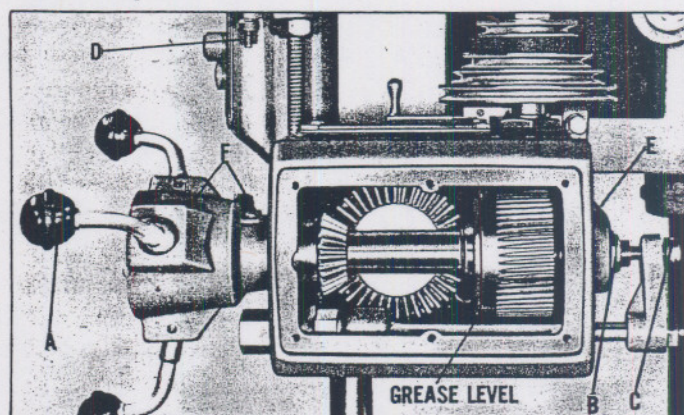
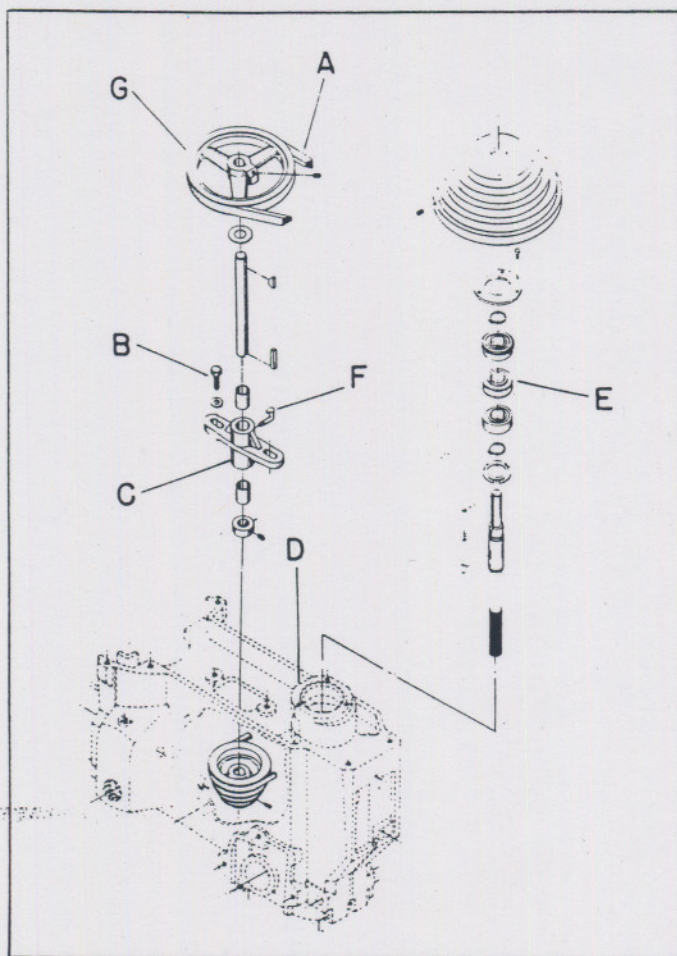

Fig. 13.
Fig. 15.
The plunger (C) Fig. 13, is an external extension of the clutch shaft, and is provided in order that automation devices can be interlocked with the power feed. It also provides a means for remote control.
When this plunger is pushed in the power feed cycle is started, the same as it is when any one of the three handles is pushed in. The feed then continues until this plunger is pulled out, or one of the three handles is pulled out, or until the screw (D) Fig. 13, actuates the trigger of the power feed. At this time the feed stops, and the quill automatically returns to the "up" or starting position.
Adjustment for torque is made by first engaging the clutch by pushing in the power feed pilot wheel (A) Fig. 13. The torque adjustment nut (B) is a self-locking nut. As viewed from the rear, turning the adjustment nut (B) in, or clockwise, will increase the holding pressure or torque, while turning the nut (B) counter-clockwise will decrease it. This adjustment is extremely sensitive — — — do not turn the adjusting nut more than 1/16 of a turn at a time without checking the torque; the amount of torque can be checked by forcing the handwheel to move while the clutch is engaged. The force required to make the clutch slip is approximately equal to 1/12 of the pressure delivered at drill point. If the adjustment nut is drawn up too tight, it will not be possible to operate the clutch.
To replace the power feed drill press belt (A) Fig. 15, proceed as follows:
2. Loosen two cap screws (B) Fig. 15, that holds countershaft assembly bracket (C), and move bracket (C) toward front of head to release tension on belt (A) Fig. 15.
5. Insert new belt through opening in rear of upper spindle boss (D) Fig. 15, of head casting.
6. Replace spindle pulley assembly into the head casting. Make sure the power feed V-Belt (A) Fig. 15, is seated in groove of pulley (E) Fig. 15. The other loop of power feed V-Belt (A) is seated in the groove of pulley (G) Fig. 15.
7. Adjust belt tension by moving countershaft bracket (C) Fig. 15, toward motor. When correct tension is obtained, tighten the two screws (B) Fig. 15.
Oil countershaft bearing by filling oil cup (F) Fig. 15, once a week with medium machine oil. Oil rear clutch housing ball oiler (E) Fig. 13, and two clutch handle housing ball oilers (F) Fig. 13, daily with medium machine oil.
Power Feed Gears – Remove side housing cover, repack to grease level, see Fig. 13, using a tacky grease such as Sohio EP-110. This should be done twice a year.